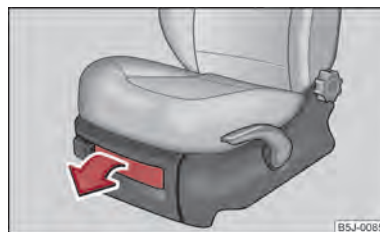

Fig. 72 Front seat: Storage compartment
- Tilt the lock to open the flap and pull out the flap ⇒ fig. 72.